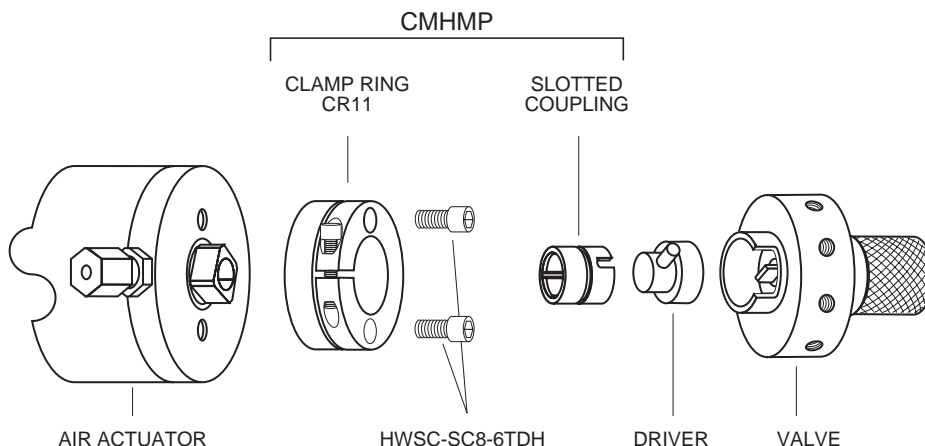

Figure 3: Valco valve (no mounting holes) on an actuator with closemount hardware
NOTE: P type 10 port valves have only one HWSC-SC6-10NT screw. W valves with more than 10 ports and UW valves with more than 8 ports have no mounting holes; they are held in place by a clamp ring (**Figure 3**), and cannot be removed from the actuator without affecting the alignment.
4. Attach the valve to the CR41/closemount standoff with the HWSC-SC6-10NT screws. For Valco valves, choose the orientation that leaves the rotor pin and valve cutout visible. As described earlier, some valves have no mounting holes and mount directly to the CR4/clamp ring. (**Figure 3**)